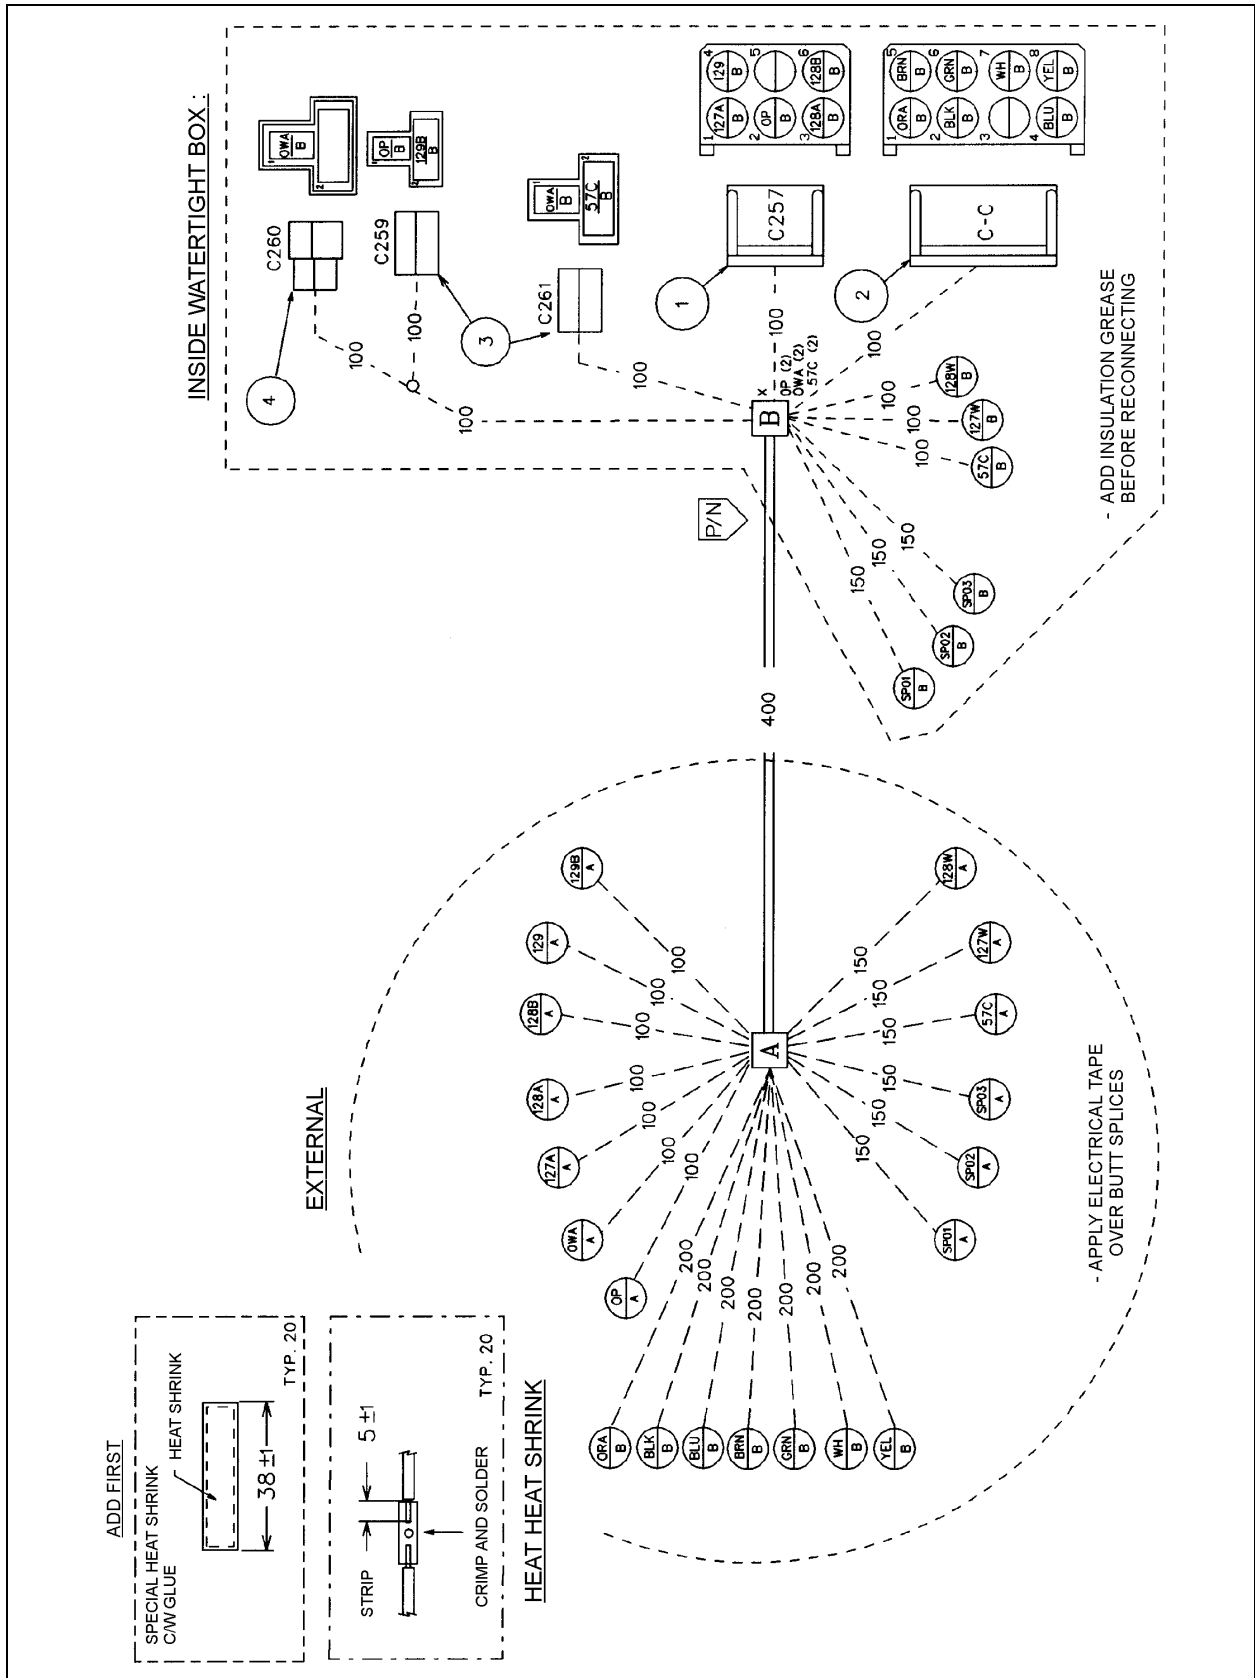

FIGURE 2
4. In order to replace corroded wires: Cut one wire at a time, insert heat shrink tubing before crimping cut wire. Identify number inscribed onto wire then crimp butt splice with matching wire number and color. Make sure to seal all connections by applying several turns of electrical tape (refer to figure 2).